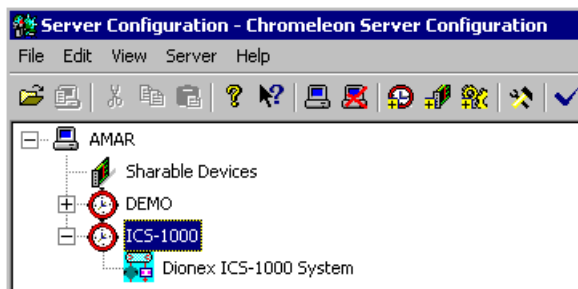

Figure B-15. Example: ICS-1000 Timebase
1. Follow the instructions in *Installing the Chromeleon Chromatography Management System with a Dionex Ion Chromatography (IC)* (Document No. 031883) to add the DX-LAN card to the server configuration as a sharable device.
2. Select the timebase that was created for the ICS-1000 (see Figure B-15); then, click the **Add device** icon  on the toolbar (or select **Edit>Add Device**).